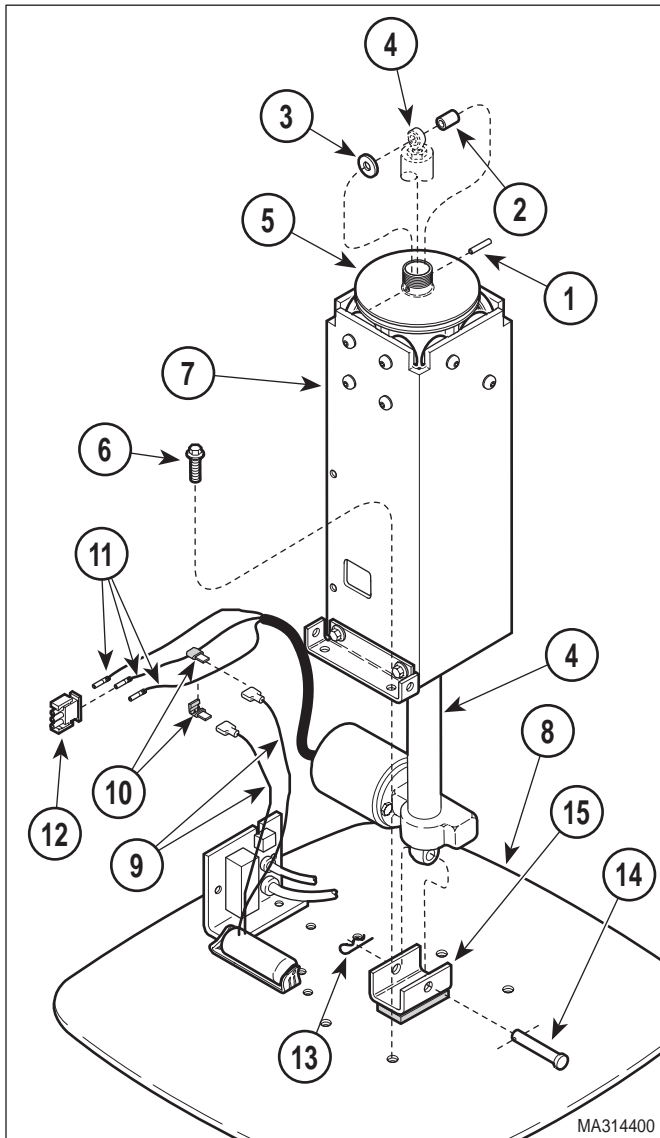

Figure 4-15. Base Actuator Removal / Installation
- (13) Remove four screws (13), spacers (14), and PC control board (2) from elevation column (9).
- (14) Remove pin (1, Figure 4-15), spacer (2), and rubber washer (3), securing shaft of base actuator (4) to slide weldment (5).
- (15) Remove four screws (6) securing elevation column (7) to base casting (8).
- (16) Lift elevation column (7) off of base actuator (4) and lay elevation column on base casting (8).
- (17) Disconnect two capacitor wires (9) from two T-taps (10).
- (18) Tag and remove two T-taps (10) from base actuator wires (11).
- (1) Install base actuator (4, Figure 4-15) on actuator mount (15) and secure with clevis pin (14) and hitch pin clip (13).
- (2) Rotate shaft of new base actuator (4) until it is extended to approximately same length as old base actuator.
- (3) Insert three base actuator wires (11) into connector (12).
- (4) Install one T-tap (10) on red base actuator wire (11) and one T-tap (10) on black base actuator wire (11).
- (5) Connect two capacitor wires (9) to two T-taps (10).
- (6) Position elevation column (7) over base actuator (4) and lower onto base casting (8).
- (7) Secure elevation column (7) on base casting (8) with four screws (6).